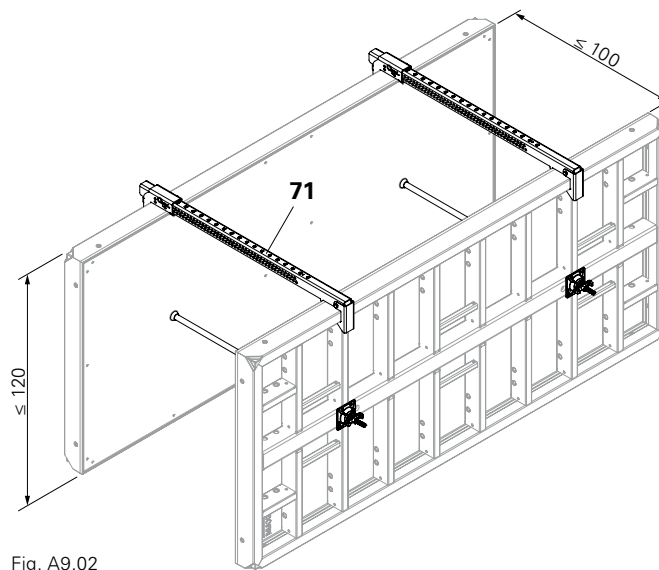

Fig. A9.02
- Wall thickness ≤ 100 cm: MX 15-100 (Fig. A9.02)